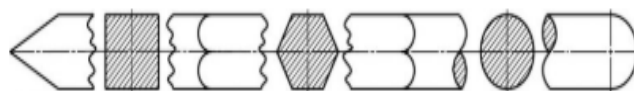

Fig. 2.42: Revolved Section
- **Revolved Section:** A part of the object is rotated (revolved) 90° to show internal details (Fig. 2.42).